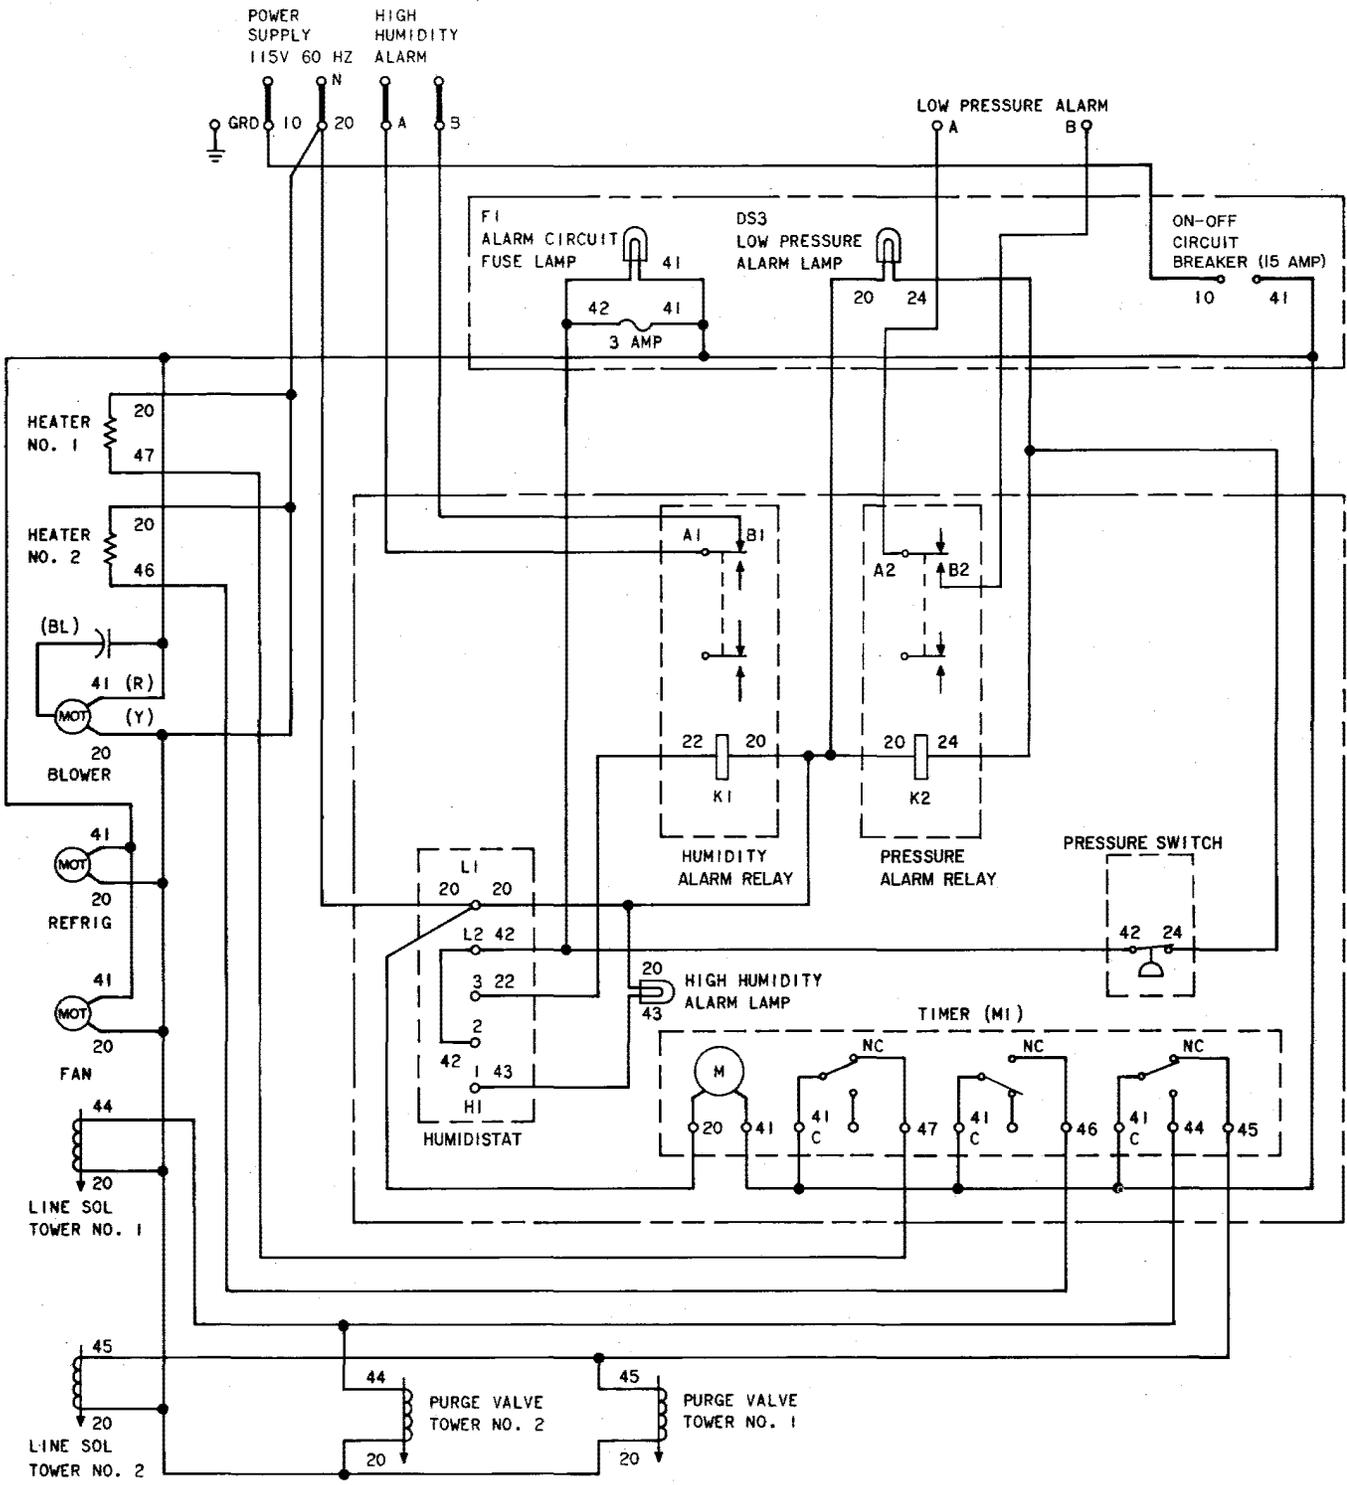

Fig. 11—KS-20183 L2 Air Dryers—Wiring Diagram (L101 and L103 Wiring not Included)
3.03 The wiring schematics of the KS-20183 L2 and L3 air dryers are shown in Fig. 11 through 14.